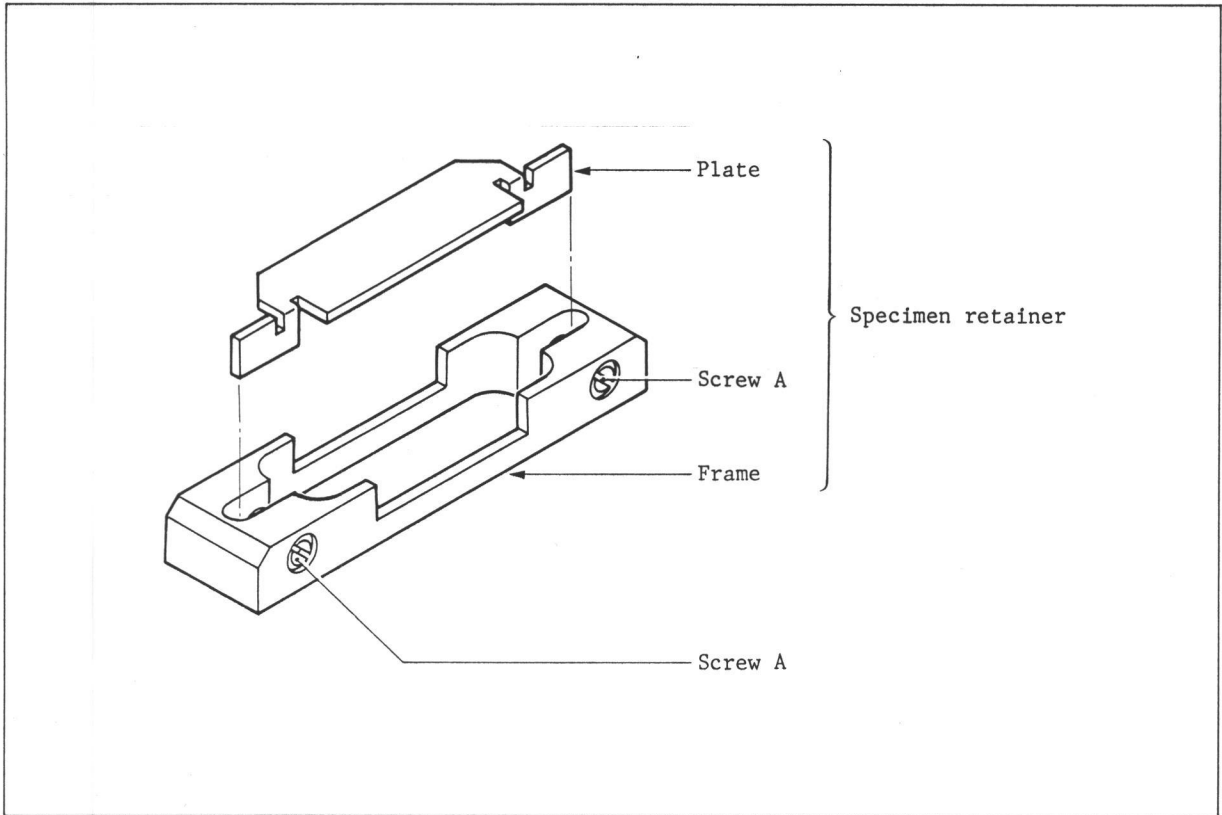

Fig. 7
2. Loosen screws A (two) on the frame of the specimen retainer and take the plate out of the frame (Fig. 7).